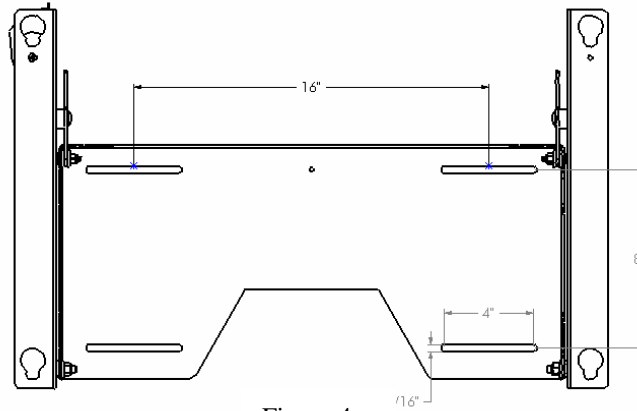

Figure 4
- Securely anchor plasma mount to the wall using wall studs or supporting framework (see Figure 4). The small center hole can be used to lightly hold the mount in place while marking drill hole locations.